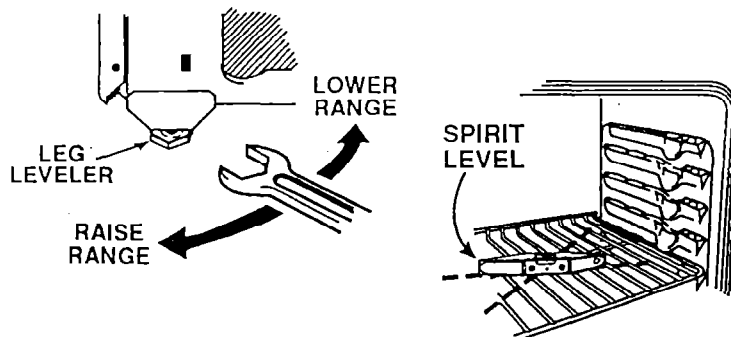

Fig. 8
- Use the wrench to adjust the leg levelers. Level the range from front to back and side to side. See Fig. 8.